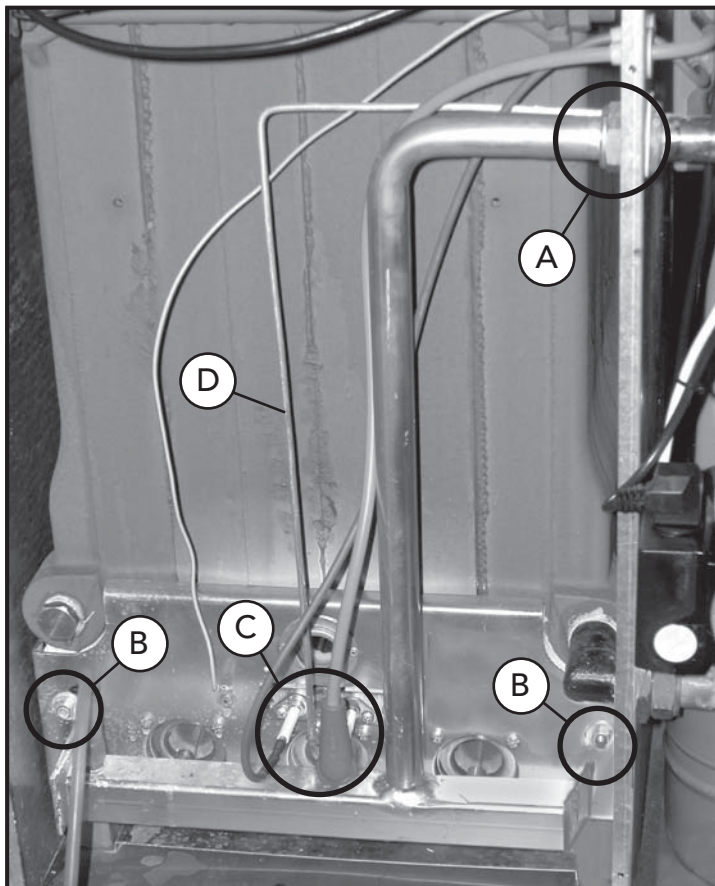

Fig. 12
- Unscrew the two nuts **B** attaching the combustion chamber door to the cast iron elements of the boiler (fig. 12)